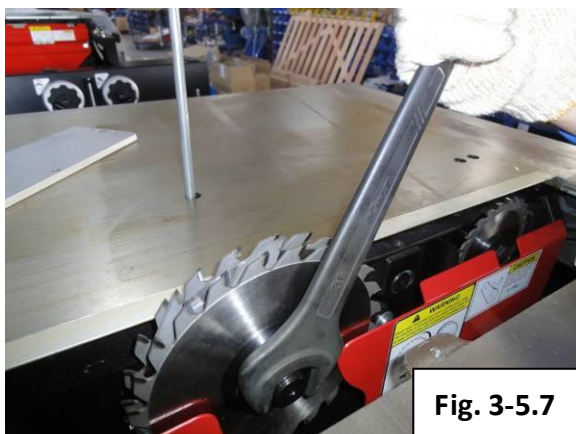

Fig. 3-5.7
7. Fit the 2nd blade. (Fig 3-5.7)